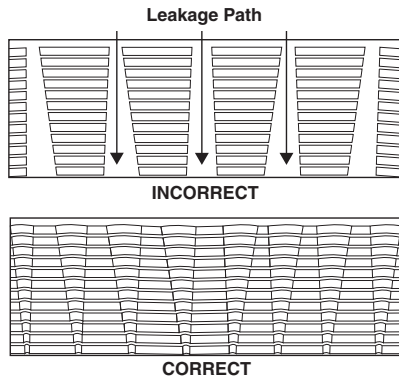

Figure 8 – Expansion Markings (Inside Expanded Tubing End)
5. Working quickly, visually check the inside of the expanded tube end. Confirm that there is no dirt, debris or head lubricant in the tube. If needed, wipe the inside of the tube out. Inspect the expansion markings inside the tube end. The markings should overlap (see Figure 8) reducing the likelihood of potential leak paths.